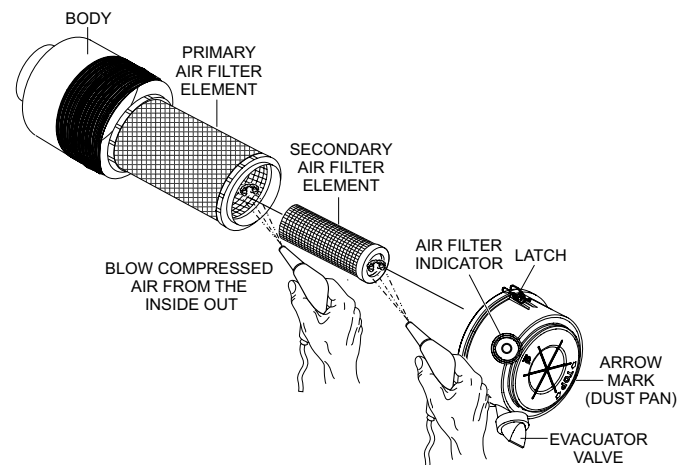

Figure 57. Air Cleaner
Every 250 hours: Remove air cleaner element (Figure 57) and clean the heavy duty paper element with light spray of compressed air. Replace the air cleaner as needed.
1. Release the latches (Figure 57) that secures the cover to the air cleaner body.
6. To clean the primary element (paper air filter) as referenced in (Figure 57), tap the filter element several times on a hard surface to remove dirt, or blow compressed air (not to exceed 30 psi (207 kPa, 2.1 kgf/cm²) through the filter element from the inside out.